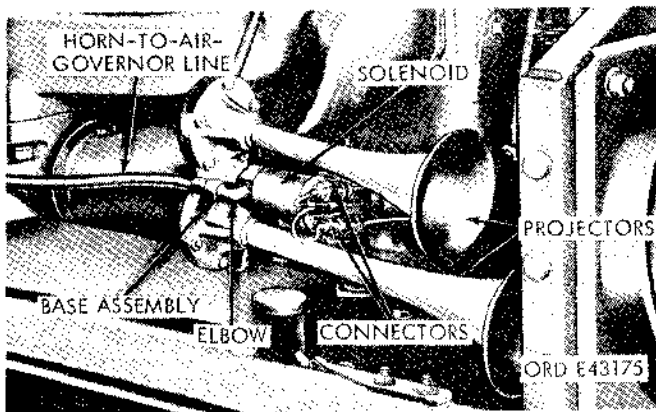

Figure 2-164. Horn installed in vehicle (solenoid without mounting brackets).
*(1) Removal (fig. 2-164).*
*(2) Installation (fig. 2-164).*